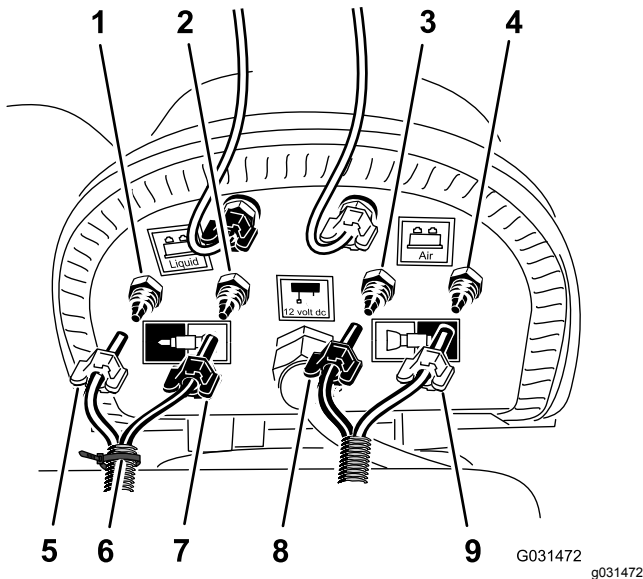

Figure 23
1. At the connection panel of the compressor for the foam-marker kit, secure a cable tie around the clear and blue tubing for the right boom section (Figure 23).
2. Loosen the compression nuts for the 2 clear and 2 blue tubes for the foam nozzles at the left and right boom sections (Figure 23).
3. Remove the 4 tubes from the compression fittings for the boom sections (Figure 23).